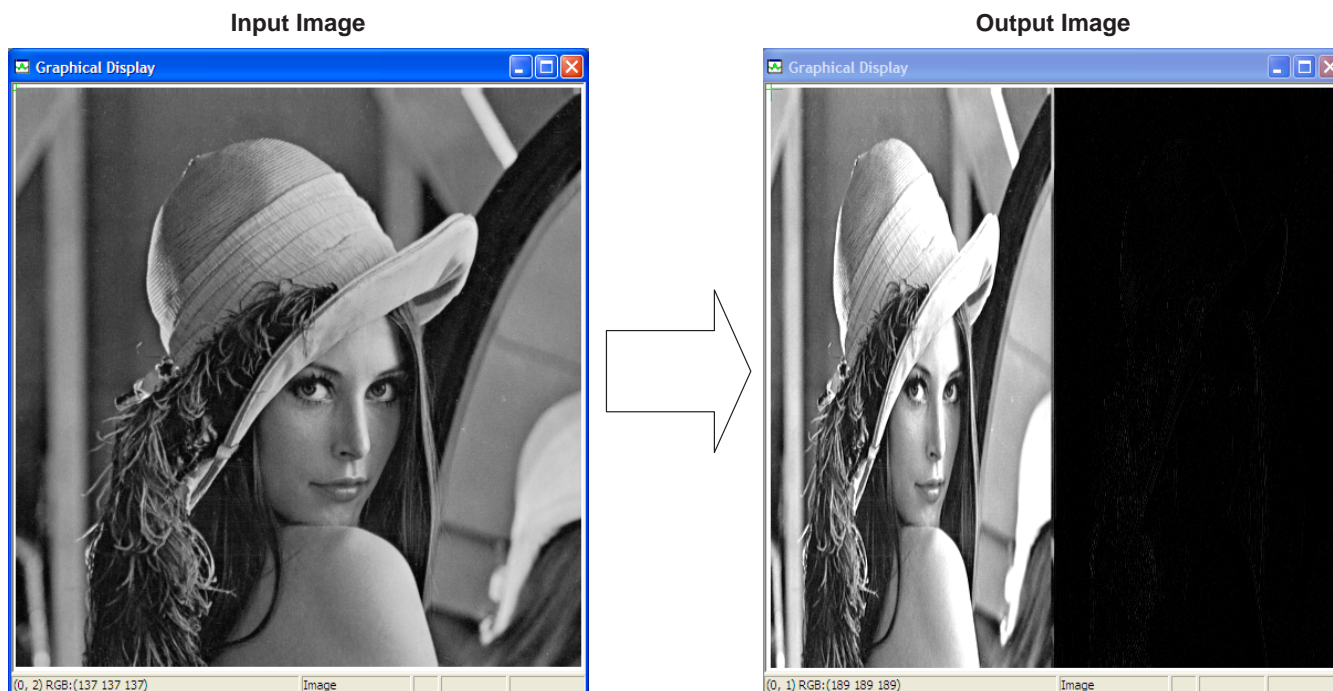

Figure 8. Input and Output Images Data Collection
- Repeat step 3 to display the output image in another Graphical Display window by replacing "in_image_ext" with "out_image_ext". The input and output images are shown in Figure 8.